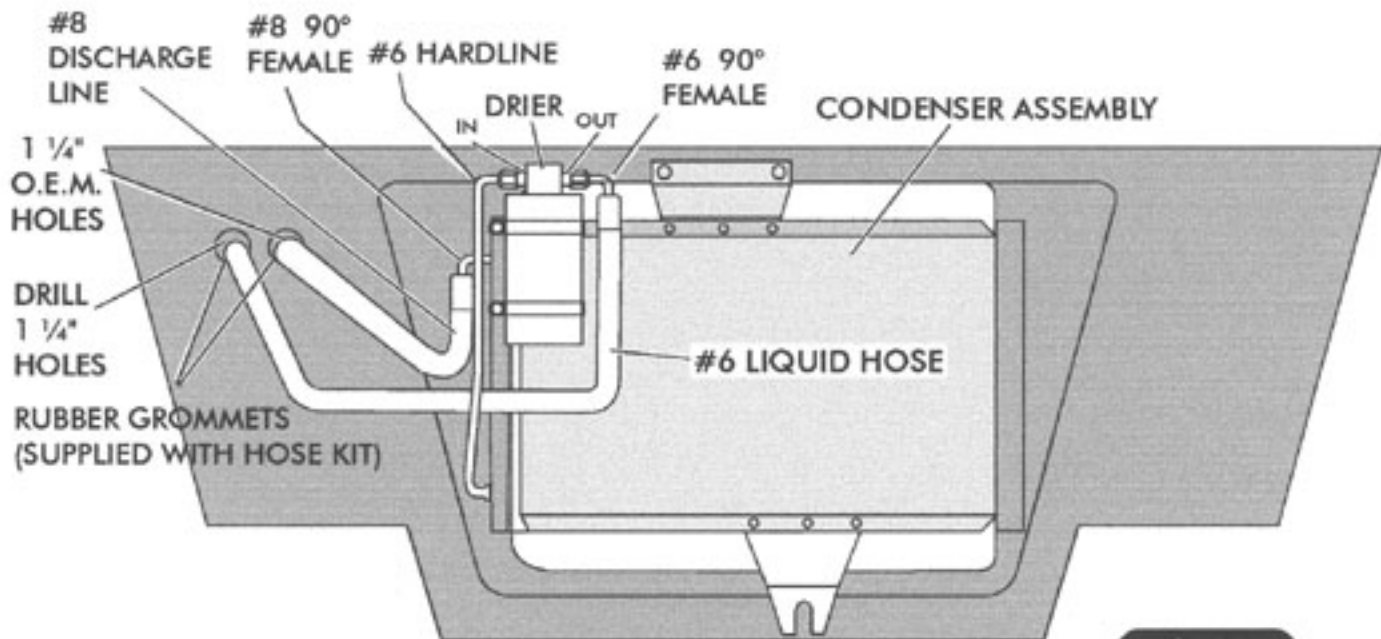

FIGURE 7
- MOVE TO THE PASSENGER SIDE OF THE O.E.M. HOLE AND DRILL A 1-1/4" HOLE AS SEEN IN FIGURE 7 BELOW.
- LOCATE THE #8 DISCHARGE HOSE (13/32" I.D. HOSE THAT ROUTES FROM THE TOP OUTLET ON CONDENSER TO THE DISCHARGE PORT ON THE AIR COMPRESSOR). LUBRICATE THE #8 O'RING (SEE FIGURE 7A) AND INSTALL IT ON THE #8 90° FEMALE FITTING. SEE FIGURE 7. INSERT THE FITTING INTO THE INLET OF THE CONDENSER (TOP FITTING).